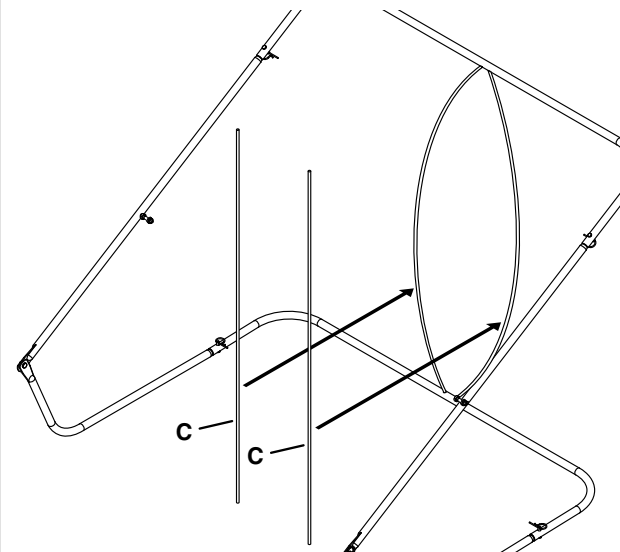

Figure 11
STEP 11: (SEE FIGURE 11)
- Position a hopper support rod (C) into the hole on the lower support tube. Lightly bend the rod (C) outwards and place the other end into the hole on the upper support tube. Repeat on the other side.